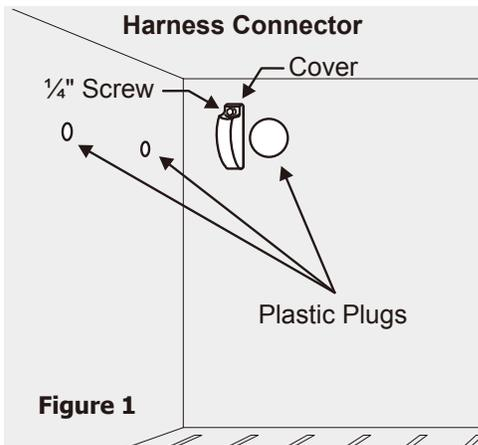

Figure 1
4. Use a plastic putty knife to remove plugs from inside freezer compartment. (See Figure 1.)
5. Remove the harness connector cover, where the ice maker will plug into, by removing the ¼ inch hex head screw. (See Figure 1.)